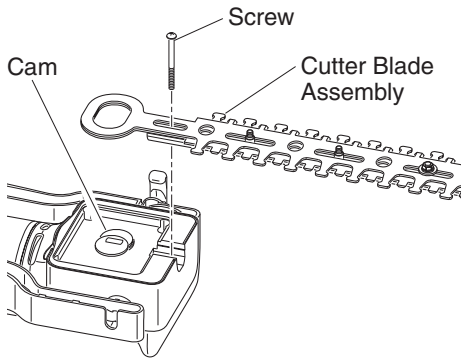

Figure 19 - Removing Cutter Blade Assembly
- Remove screw that holds down cutter blade assembly (see Figure 19).